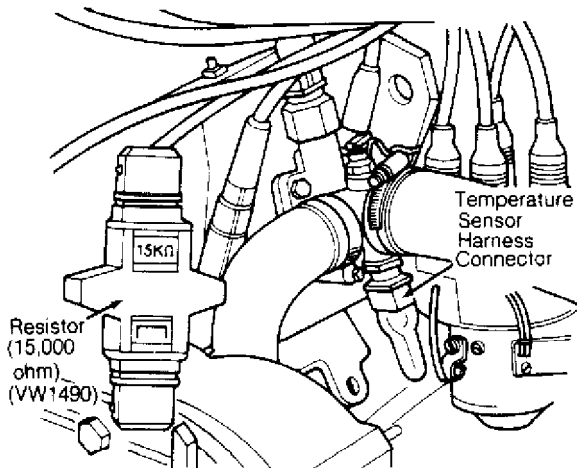

Fig. 1: Fox Coolant Temperature Sensor Location & 15,000-Ohm Test Resistor
4) Remove suction hose from carbon canister. Disconnect "T" fitting from carbon canister at air intake boot. On Fox models only, remove connector from coolant temperature sensor and install 15,000-ohm resistor (VW 1490) on temperature sensor harness. See Fig. 1.